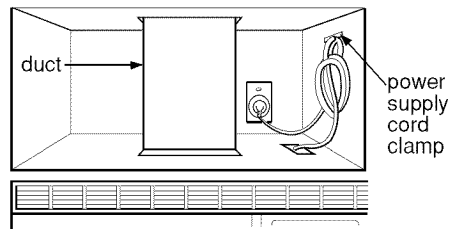

Figure 34
7. Roof venting installation: Install ductwork through the vent opening in the upper cabinet. Complete the venting system through the roof according to the method needed. See Figure 34. See "PREPARE THE VENTING SYSTEM," STEP 2 on the page 8. Use caulking to seal exterior roof opening around exhaust cap. See Figure 6 on page 8.
8. Use power supply cord clamp to bundle the power supply cord. Install power supply cord clamp, using screw as shown in Figure 34, to inside of the cabinet.